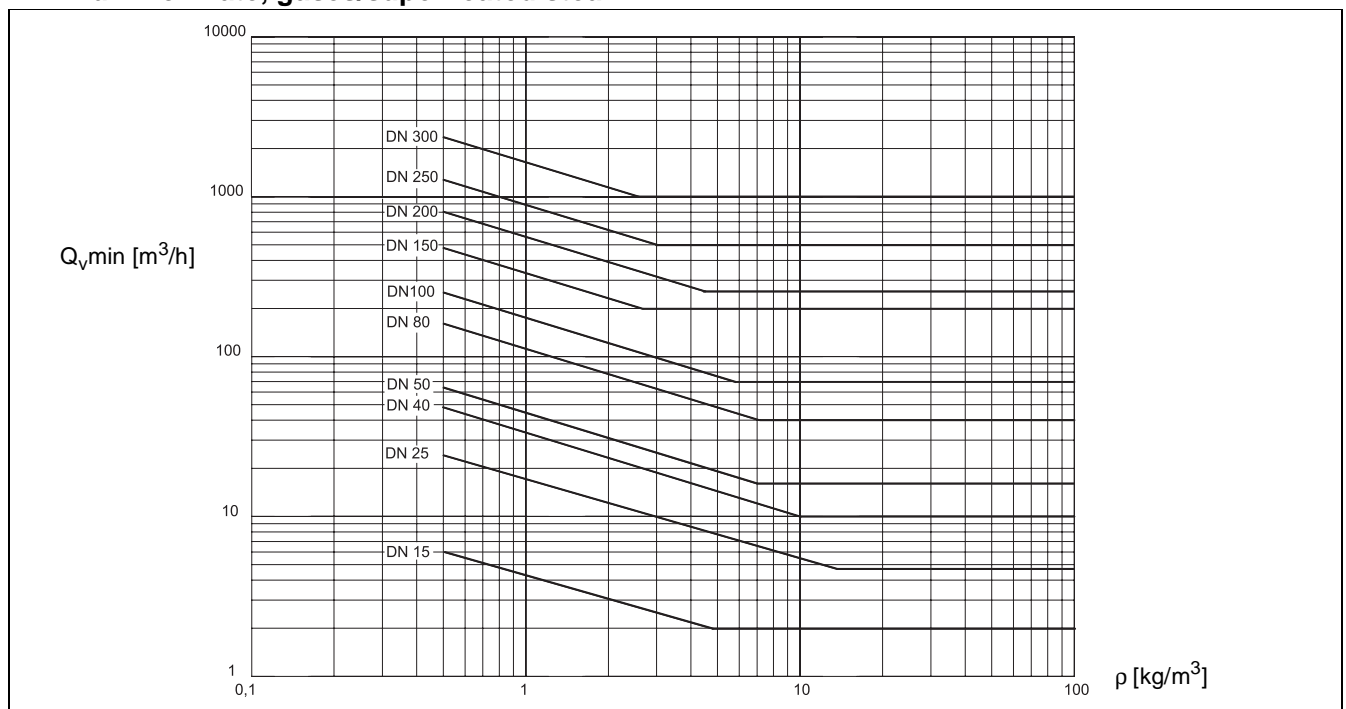

Fig. 7 Minimum flow rate, gases/superheated steam versus medium density, DIN
- Min. linear flow rate for $\rho = 7,4 \text{ kg/m}^3$ (from Fig. 7):